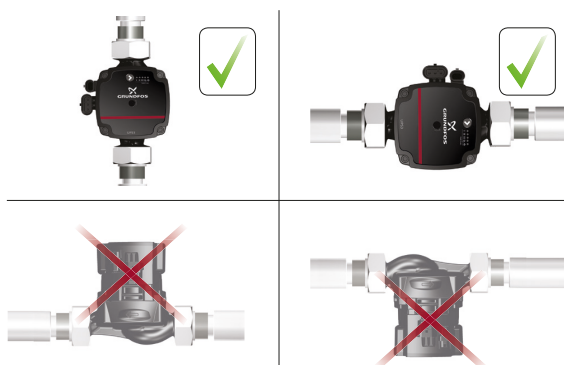

Fig. 4 Pump positions
Always install the pump with a horizontal motor shaft within $\pm 5^\circ$. Do not install the pump with a vertical motor shaft. See fig. 4, bottom row.
- Pump installed correctly in a vertical pipe. See fig. 4, top row, left.
- Pump installed correctly in a horizontal pipe. See fig. 4, top row, right.